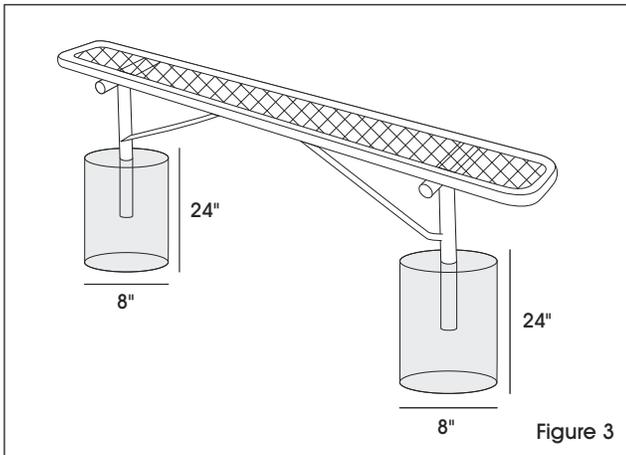

Figure 3
6. Measure the distance between the center of each leg and dig two holes 24" deep and 8" wide to match. (See Figure 3)